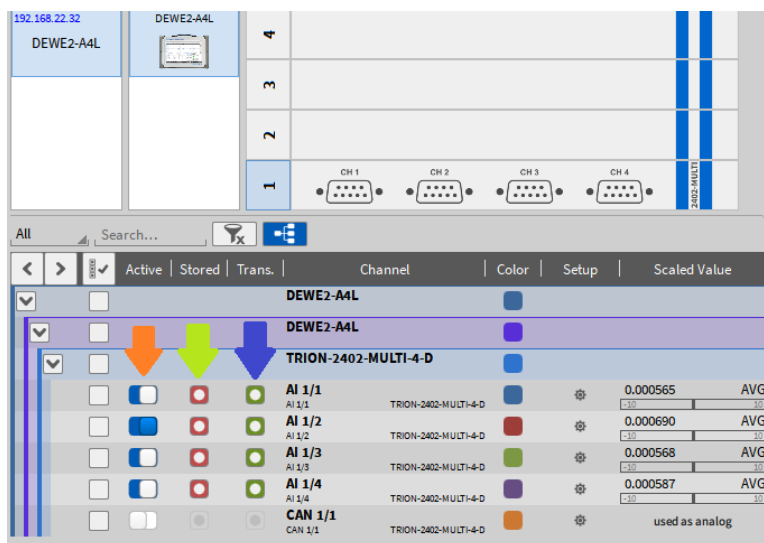

Fig. 15.22: Slave unit channels visible in the Master units' Channel List
Data Channels of a Slave unit can be configured via the Master unit. After claiming the Slave unit by the Master unit, the channels of the Slave unit will be visible and accessible in the Channel List of the Master unit. The example in Fig. 15.22 shows a DEWE2-A4L-Slave unit (equipped with one TRION-2402-MULTI-4-D) connected to a Laptop-Master unit without TRION hardware connected. When settings of a Slave unit channel are edited via the Channel List of the Master unit, the changes will be transferred to the Slave unit.
- The blue slider marked with an orange arrow in Fig. 15.22 will activate or deactivate the data acquisition from the channel
- The red button marked with a green arrow in Fig. 15.22 will enable the storing of the data
- The green button marked with a blue arrow in Fig. 15.22 will enable the data transfer from the Slave unit to the Master unit.